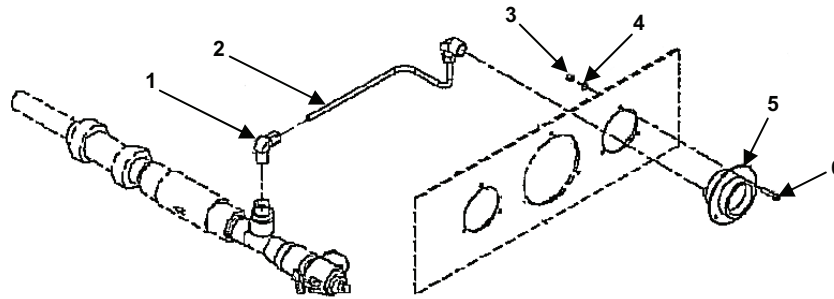

Figure 4. Backwash Pressure Gauge.
1. Remove screws (Figure 4, item 6), nuts (Figure 4, item 3), and washers (Figure 4, item 4).
2. Remove tubing (Figure 4, item 2) from gauge (Figure 4, item 5).
3. Remove gauge (Figure 4, item 5) from the panel. Remove elbows (Figure 4, item 1) only if necessary.